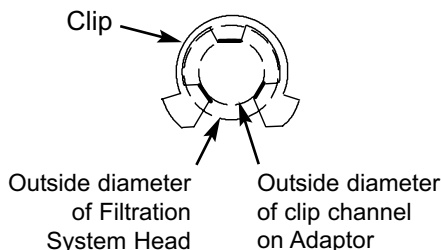

FIG. 10
2. Secure in place with clips. Ensure all three tabs on the clips go through the matching holes and are fully in the channels on the adaptor (See Figure 10).